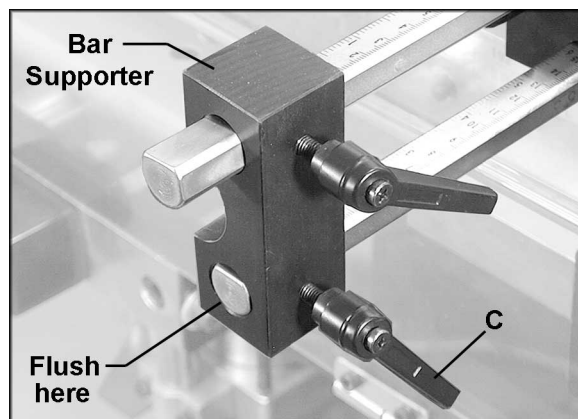

Figure 32
3. Bring bar supporter flush to the end of lower bar, as shown in Figure 32, and tighten locking handle (C, Figure 32). Do this at both ends of the fence.